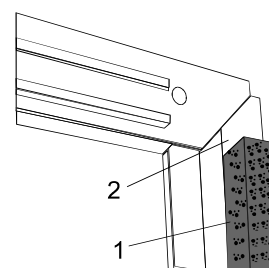

Fig. 5
Install self-adhesive foam insulation (1) to inside of both vertical sections of the door frame (2) (see Fig. 5).